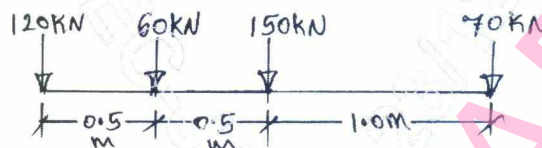

Fig. Q1 (b)
- b. The load system shown in Fig. Q1 (b) move from left to right on a girder of span 10 m. Find the absolute maximum B.M. for the girder. Also find the maximum +ve and -ve S.F. anywhere on the beam. (16 Marks)